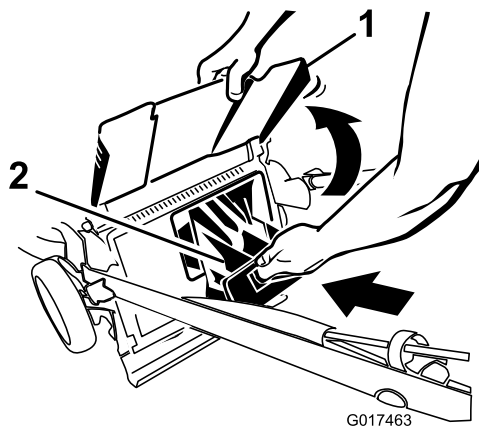

Figure 26
4. Install the rear-discharge plug (Figure 26).